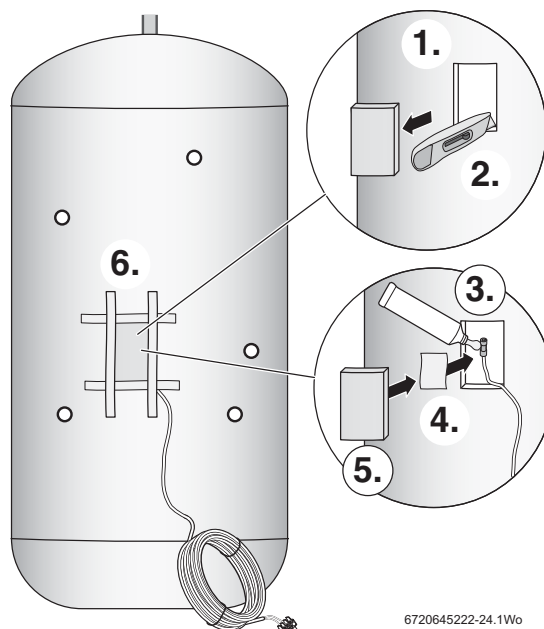

Fig. 15 Sensor connection to cylinder
- Figure 15 applies only to foam covered open vented cylinders.